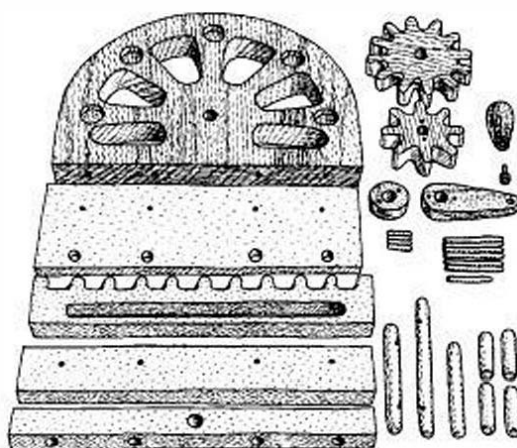

FIGURE 12-10
- 3** When you are happy with the movement, cut the dowel rods to size, drill peg holes, drill out the handle for the mushroom pivot, and sand all the parts (Fig 12-10). Use round toothpicks for fixing everything in place.